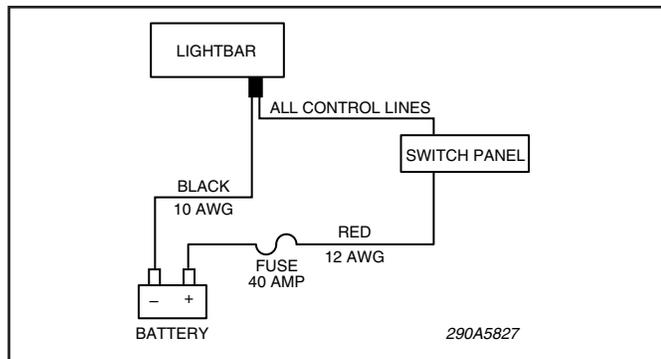

Figure 1.
B. See figure 1. Ensure that the lines are adequately fused as shown. From the lightbar, route control cable into the vehicle's cab or trunk near the eventual location of the switches that will control lightbar function.